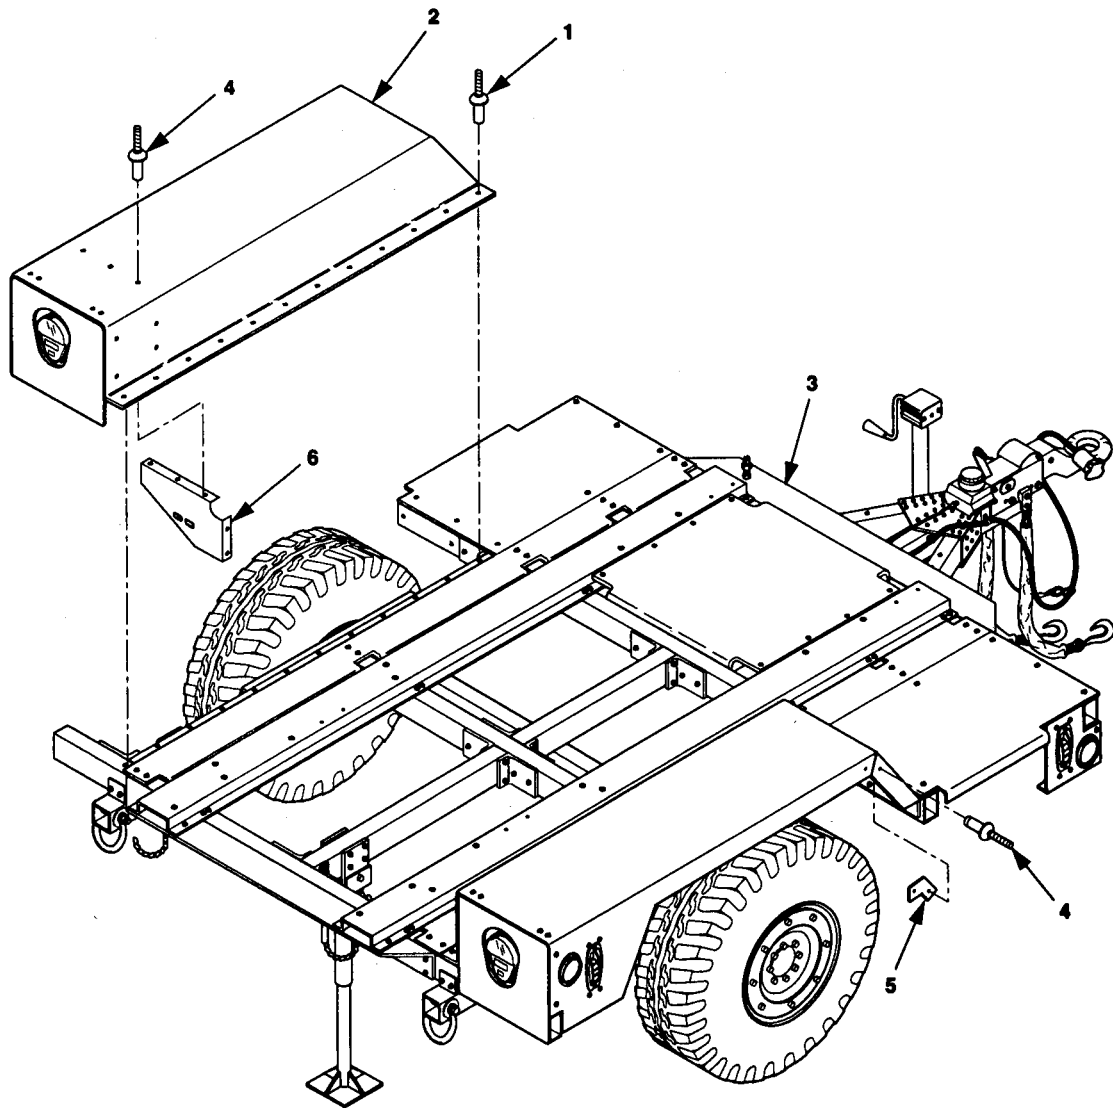

Figure 5-20. PU-801A Fender Replacement.
(1) Data plate (paragraph 4-22).
(2) Fire extinguisher and bracket (paragraph 4-20).
(3) Side marker light and reflector (TM 9-2330-392-14&P).
c. Remove rivets (1, figure 5-20) and fender (2) from trailer chassis (3).
a. Place fender (2, figure 5-20) on trailer chassis (3) and secure with rivets (1).
- (1) Data plate (paragraph 4-22).
- (2) Fire extinguisher and bracket (paragraph 4-20)
- (3) Side marker light (TM 9-2330-392-14&P).